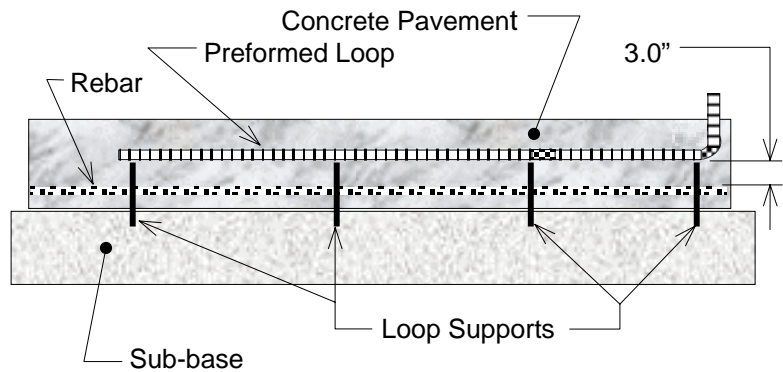

Figure 11: Concrete Installation
- B. Do not lay the loop directly on the rebar or wire mesh. Maintain a minimum of 3" away from any metal. (See Figure 11)